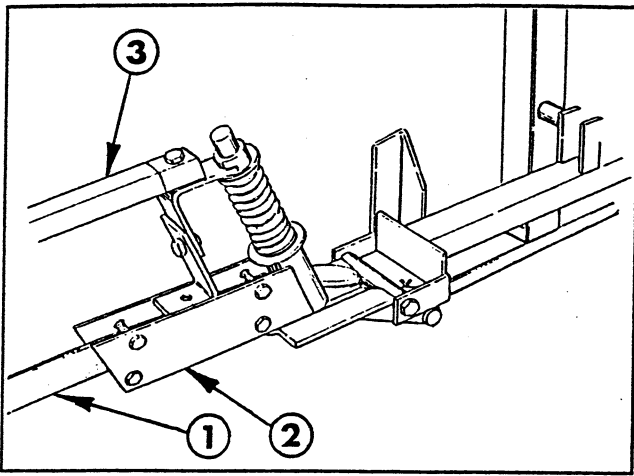

FIG. 14
50. Insert the plugged end of an extension boom pipe into the pivot assembly and secure with (4) 1/4" x 1-1/4" hex hd. cap screws and locknuts. Repeat on the opposite side to assemble the other extension boom (FIG. 14).
51. Attach the boom support assembly to the pivot assembly, using a 5/16"x 1-1/2" screw and locknut (FIG. 14).